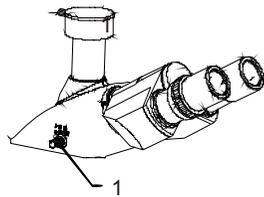

Fig.3
2. Check the position state of observation/photography switch pole 1. Push the pole in to observation with eyepiece, pull it out to photography. As shown in Fig.3.